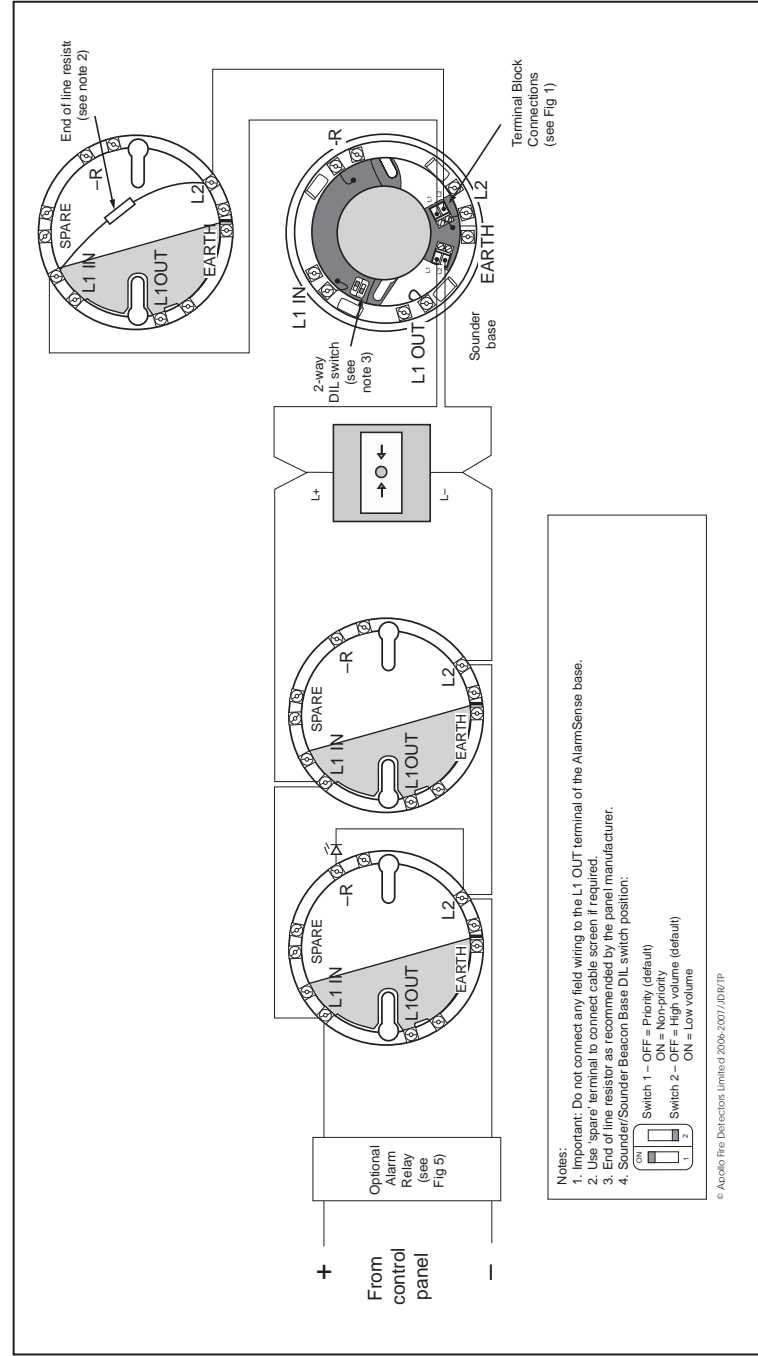

Fig 6 Schematic wiring diagram of an AlarmSense zone
Wiring connections to the AlarmSense base, part no 45681-244, are shown in **Fig 6**.
7. Connect end-of-line supplied by the panel manufacturer between COM 1 and COM 2. (See Fig 6).